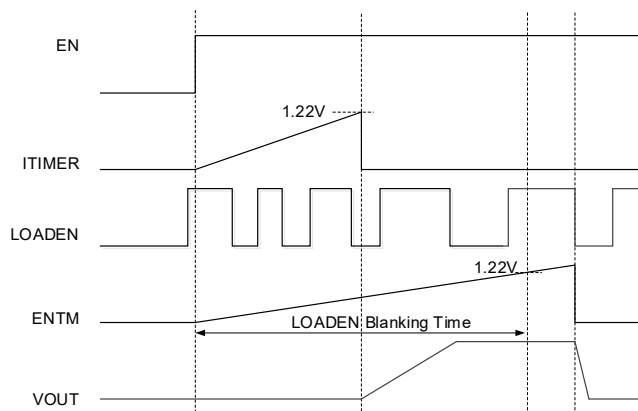

Figure 7. LOADEN Blanking Time
When the enable signal (EN) is asserted high, LOADEN incorporates a programmable blanking time to inhibit de-assertion during the specified interval (refer to Figure 7). All fault detection functions remain enabled during startup. The power FET shuts down immediately upon fault detection. A transition of LOADEN to low during the blanking period does not deactivate the power FET switch.